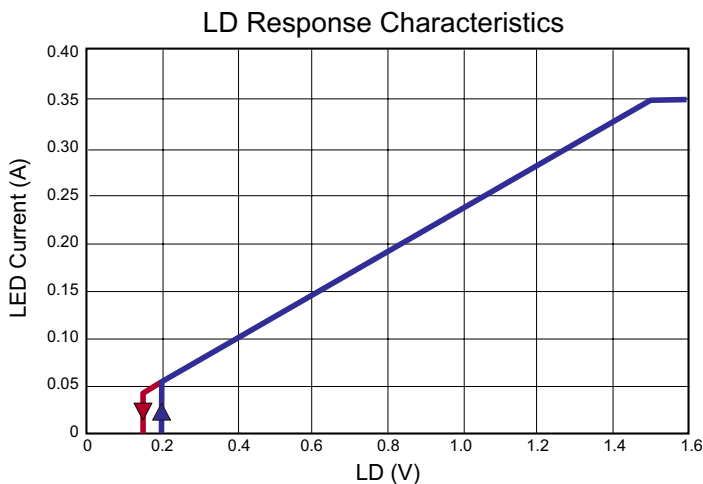

Fig.3. Typical linear dimming response of an HV9861A LED driver
When the voltage at LD falls below 1.5V, the internal 270mV reference to the constant-current feedback becomes overridden by $V_{LD} \cdot 0.18$. As long as the current in the inductor remains continuous, the LED current is given by the equation (3) above. However, when V_{LD} falls below 150mV, the GATE output becomes disabled. The GATE signal recovers, when V_{LD} exceeds 200mV. This is required in some applications to be able to shut the LED lamp off with the same signal input that controls the brightness. The typical linear dimming response is shown in Fig.3.